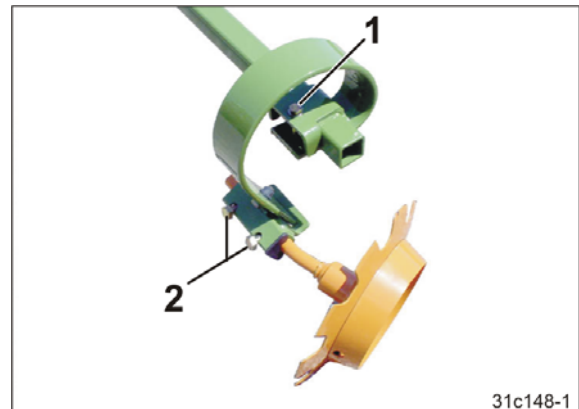

Fig. 204
4. Unscrew the bolt (Fig. 204/1).
6. Release both bolts (Fig. 204/2).